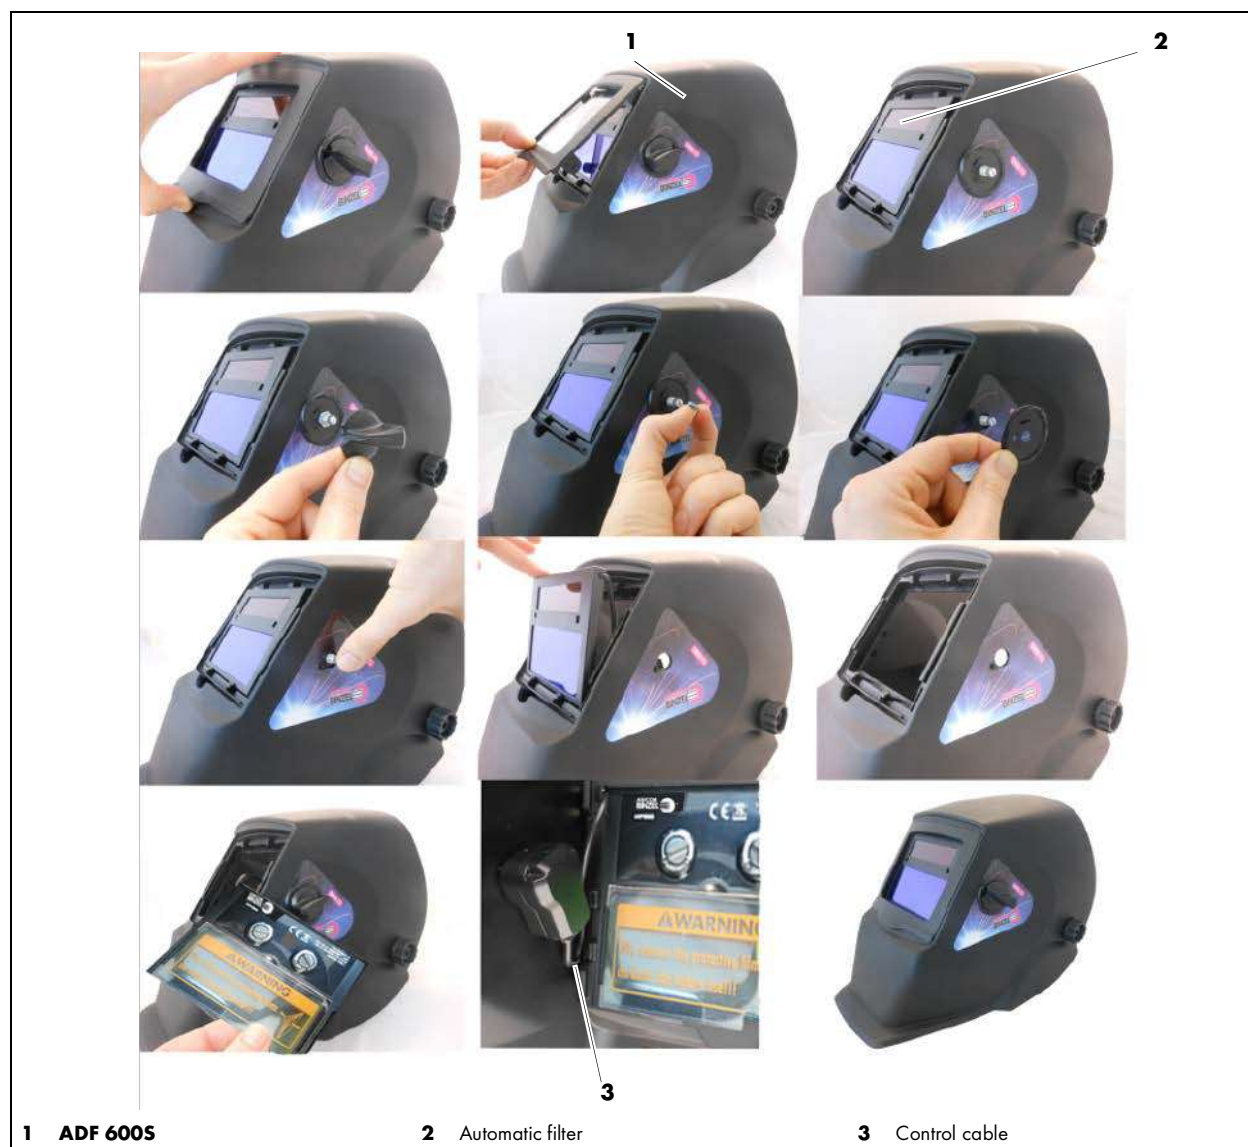

Fig. 11 Replacing the automatic filter
Replace automatic filter (2) :	⇒ Fig. 11 Replacing the automatic filter on page EN-18